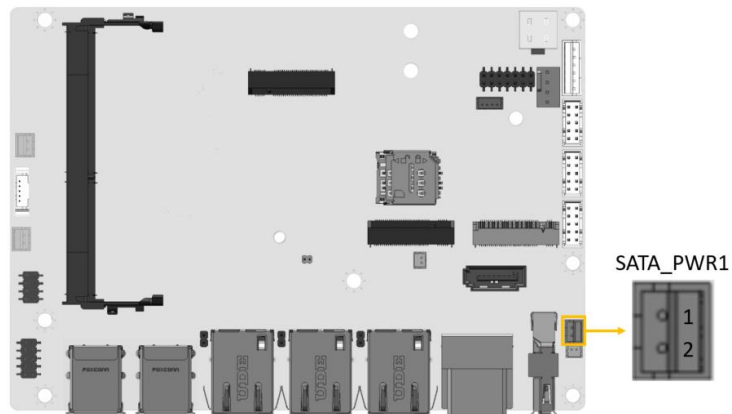

Figure 4-17: SATA Power Connector Location
- CN Location:** See **Figure 4-17**